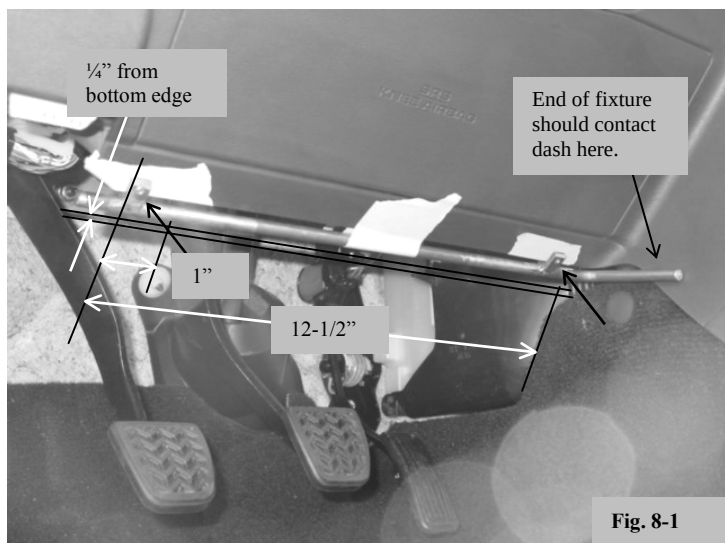

Fig. 8-1
- (1) Apply tape under the fixture to protect the dash surface. (Fig. 8-1)
- (2) The end of the fixture should contact the dash as shown. (Fig. 8-1)